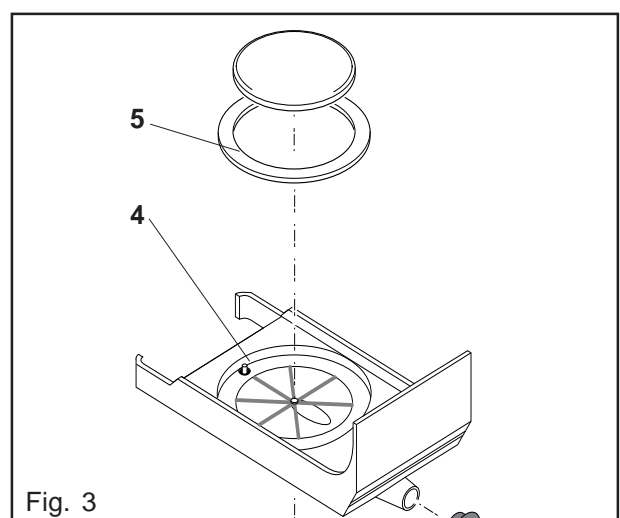

Fig. 3
2. Press down the ejector pin (4) until the sealing ring (5) comes free. (Fig. 3)
4. Clean the rubber sealing (7), the sealing ring (5), and the filter plate holder in hot water. (Fig. 3, 4)